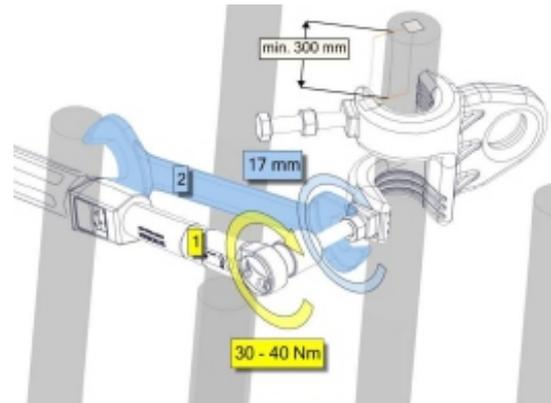

Figure 6. Installation of anchor point on bar
While holding anchor point A-165 tighten both mounting screws (Figure 6) using torque wrench (1) to 30-40 Nm. Then tighten lock nut to prevent the screw from unscrewing with use of flat wrench 17mm (2).